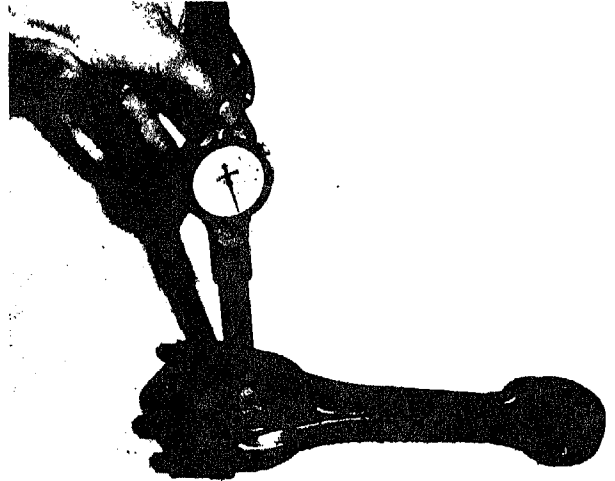
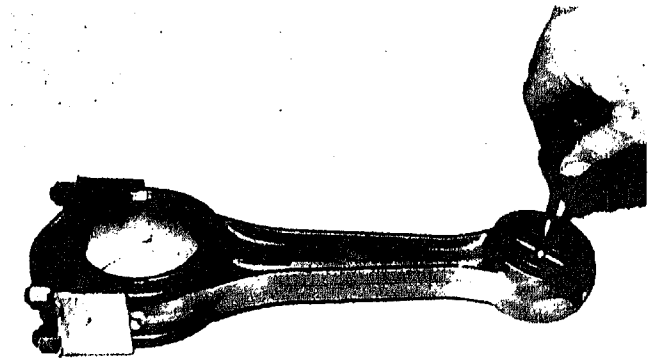
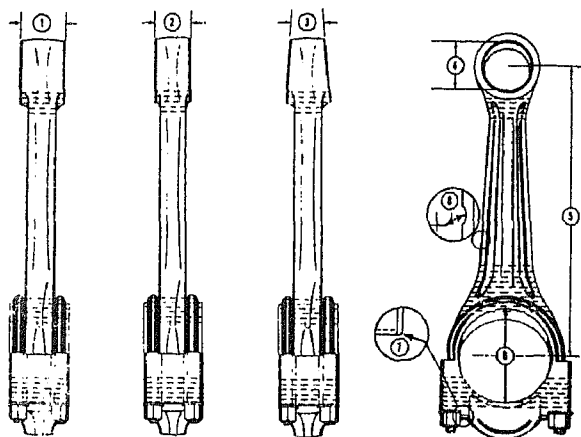

Fig. 1-8-1. Checking connecting rod crank journal bore
Fig. 1-8-2. Checking connecting rod piston pin bushing
Fig. 1-8-7 Connecting rod specifications
- b. Check rods for cracks with 3000 to 3400 ampere-turns with AC equipment or 2600 to 2800 ampere-turns with DC or rectified AC equipment in a coil. Pay particular attention to shaded critical areas shown in Fig. 1-8-7.
3. Check crankpin bore with a dial bore gauge or inside micrometers. Correct size is important to provide correct bearing crush. See Table 1-8-2, Fig. 1-8-1 and (6, Fig. 1-8-7).
4. Check piston pin bushing diameter with plug gauge or with inside micrometers. See Table 1-8-2, Fig. 1-8-2 and (4, Fig. 1-8-7).
1. Select a new rod that has been checked for correct absolute center to center length. C rods are 9.500 in. [241.3000 mm] between centers. (Production rods may vary from 9.498 in. to 9.500 in. [241.2492 mm to 241.3000 mm] (5, Fig. 1-8-7).
(7, Fig. 1-8-7). Maximum $\frac{1}{16}$ in. [1.5875 mm] metal may be milled off to restore radius.
2. Remove nicks and dents which are less than $\frac{1}{16}$ in. [1.5875 mm] deep by grinding or filing with a half-round file. Radius must be $\frac{1}{2}$ in. [12.7000 mm] or more. Blend radii at ends of cut. Scrap rod if dents are deeper than $\frac{1}{16}$ in. [1.5875 mm] (8, Fig. 1-8-7).
Note: Three types of connecting rods are used in the series engines "straight-wide (1, Fig. 1-8-7) 1.515/1.570 in. [39.3700/39.8780 mm] and narrow (2) 1.150/1.160 in. [29.2100/29.4640 mm] and tapered (3)". Do not mix types of rods in any engine.
- d. Bore new bushing to 1.500/1.5005 in. [38.1000/38.1127 mm] (4, Fig. 1-8-7).